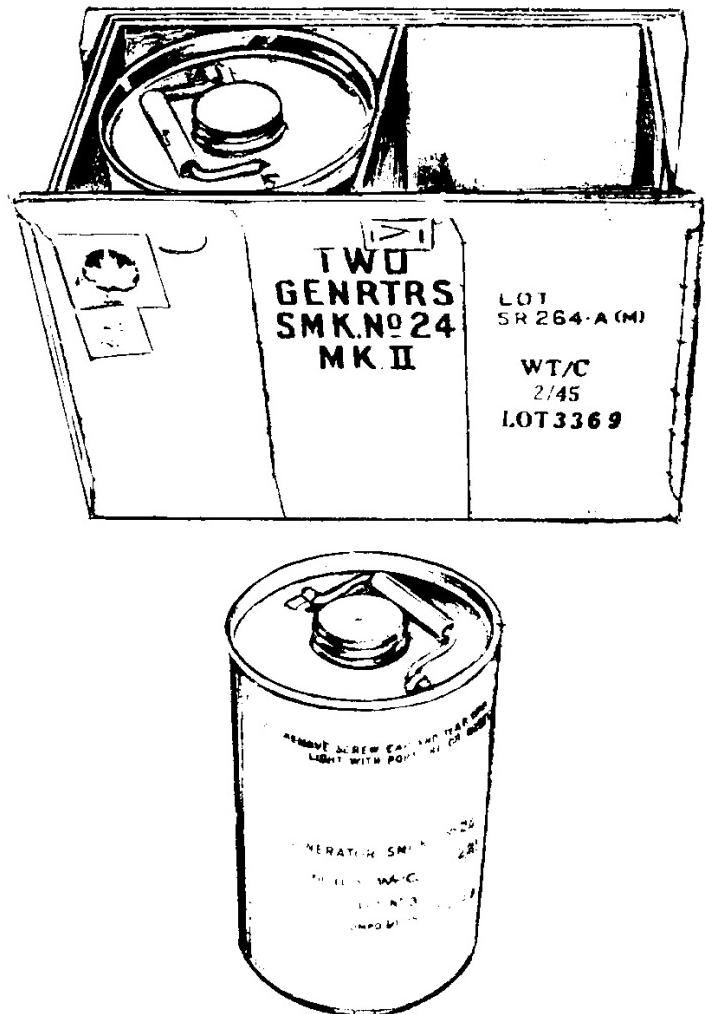

Figure 7-2      Packaging of the No 24, Mk 2 Smoke Pot (Generator)
1. Smoke Pot, Ground Type, No 24, Mk 2. Two smoke pots are contained in one wirebound crate that has the following stencilled on it in BLACK paint as shown in Figure 7-2: